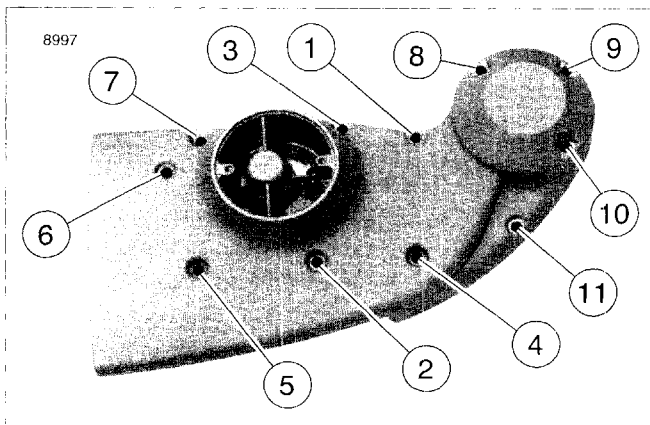

Figure 3-96. Gearcase Cover Mounting Screw Torque Sequence
12. Install gearcase cover over all gears and onto right crankcase. Secure cover to crankcase with 11 socket head screws. Tighten screws evenly to 80-110 **in-lbs** (9.0-12.4 Nm) according to the tightening sequence shown in Figure 3-96.